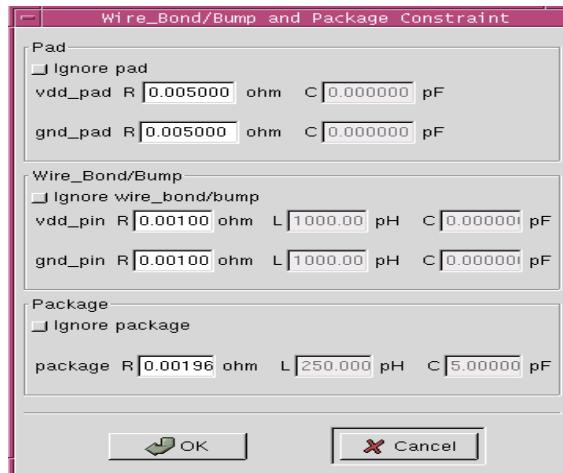

Figure 4-7 Pad, Wire-bond/Bump, and Package constraints form
1. Set the package and pad constraints by selecting the **Static -> Pad, Wire_bond/Bump and Package Constraint** command. The data form is displayed, as shown in Figure 4-7.